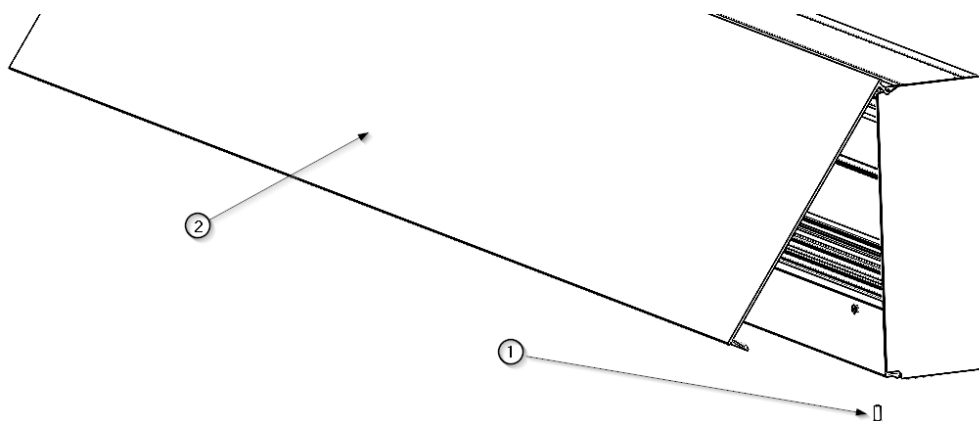

Fig.2 Removing the hinged front cover
- Remove the screw ① to be able to remove the hinged front cover ② as shown in Figure 2.